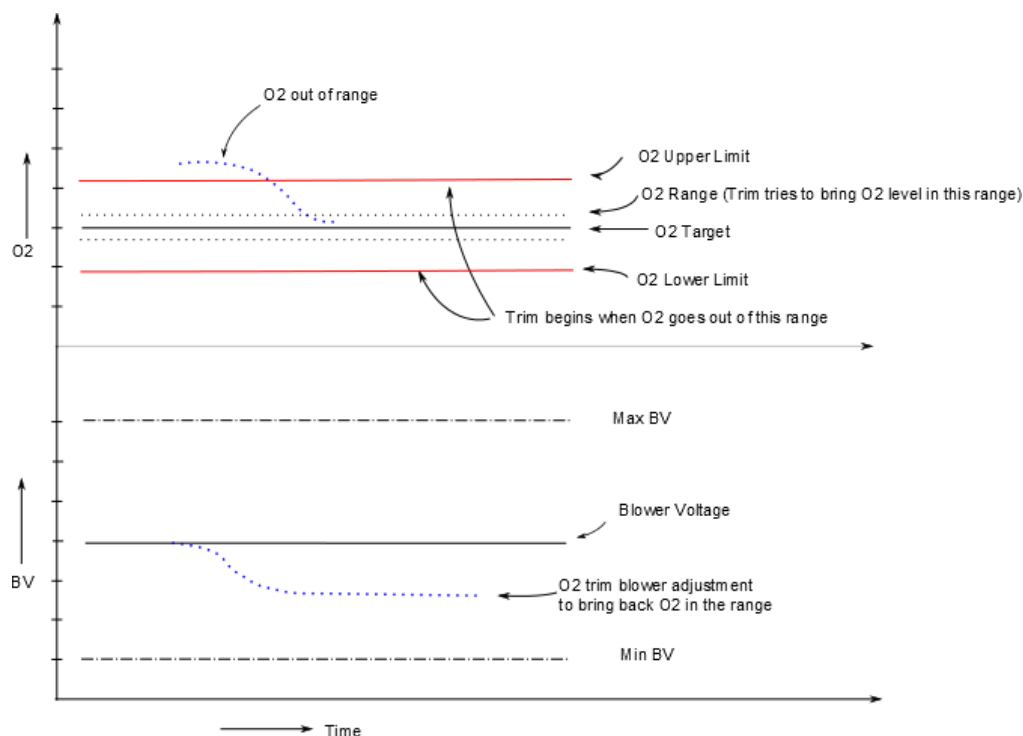

Figure 9-3: AERtrim Logic
Figure 9-3 graphically shows the functional logic of the AERtrim system and how the blower voltage (BV), O₂ Limits, and air/fuel ratio interact during an AERtrim operation. The limits are fixed presets within the controller. The target range is adjustable within these limits to allow the user to select the optimal air/fuel ratio for a particular boiler or application.
Figure 9-3 shows how the controller would react to an O₂% reading above the upper limit. The controller will reduce the blower voltage (BV) until the O₂% reading is within the Target Range, provided the BV adjustments are within the BV limits for that unit at that fire rate. The control will then store this as the new BV calibration setting until changed manually or by another cycle of the AERtrim function.